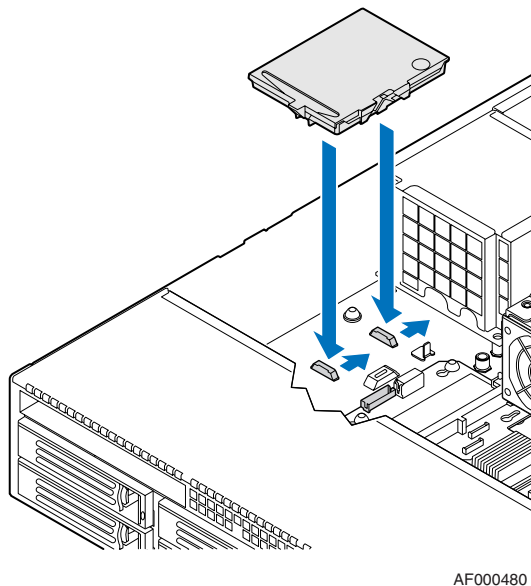

Figure 4. Engaging Clamshell Tabs with the Chassis Clips
3. Slide the clamshell toward the rear of the system until the tabs engage with the clips in the chassis (see Figure 4).